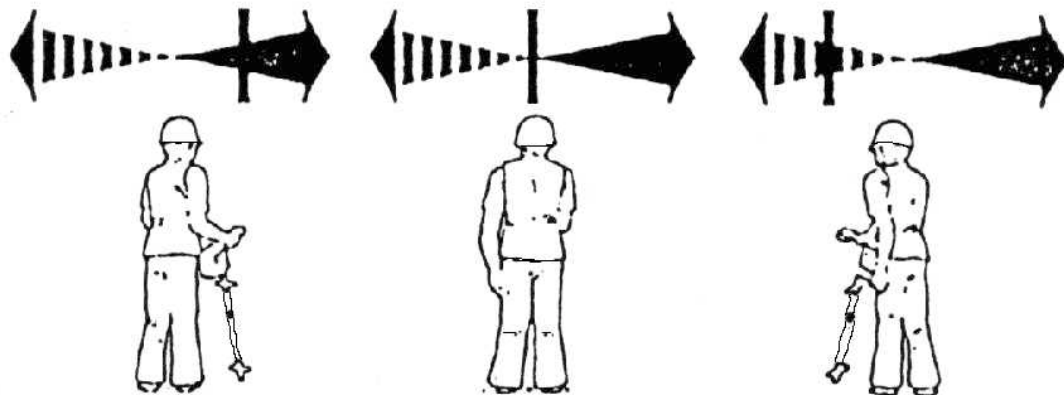

Figure 5, Checkout Receiver Directional Meter
- Point the Receiver to the left and right of the transmitter centerline. The needle should follow the change in direction (solid arrow and continuous tone when you move right, broken arrow and broken tone when you move left) (Figure 5).